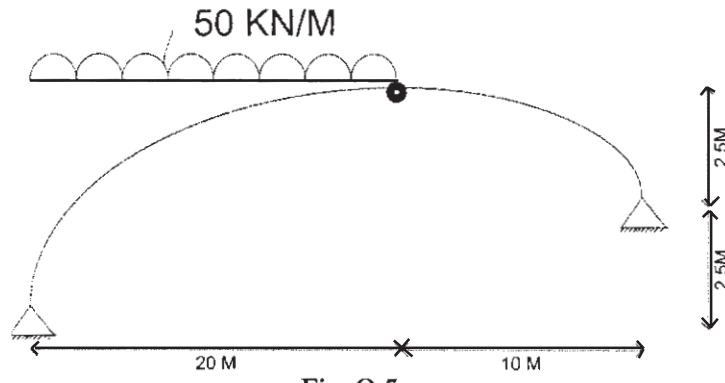

Fig. Q.5.a
- Q5) a)** A three Hinged arch is loaded & Supported as shown in Fig. Q.5.a. Determine Vertical & Horizontal reactions at supports [8]